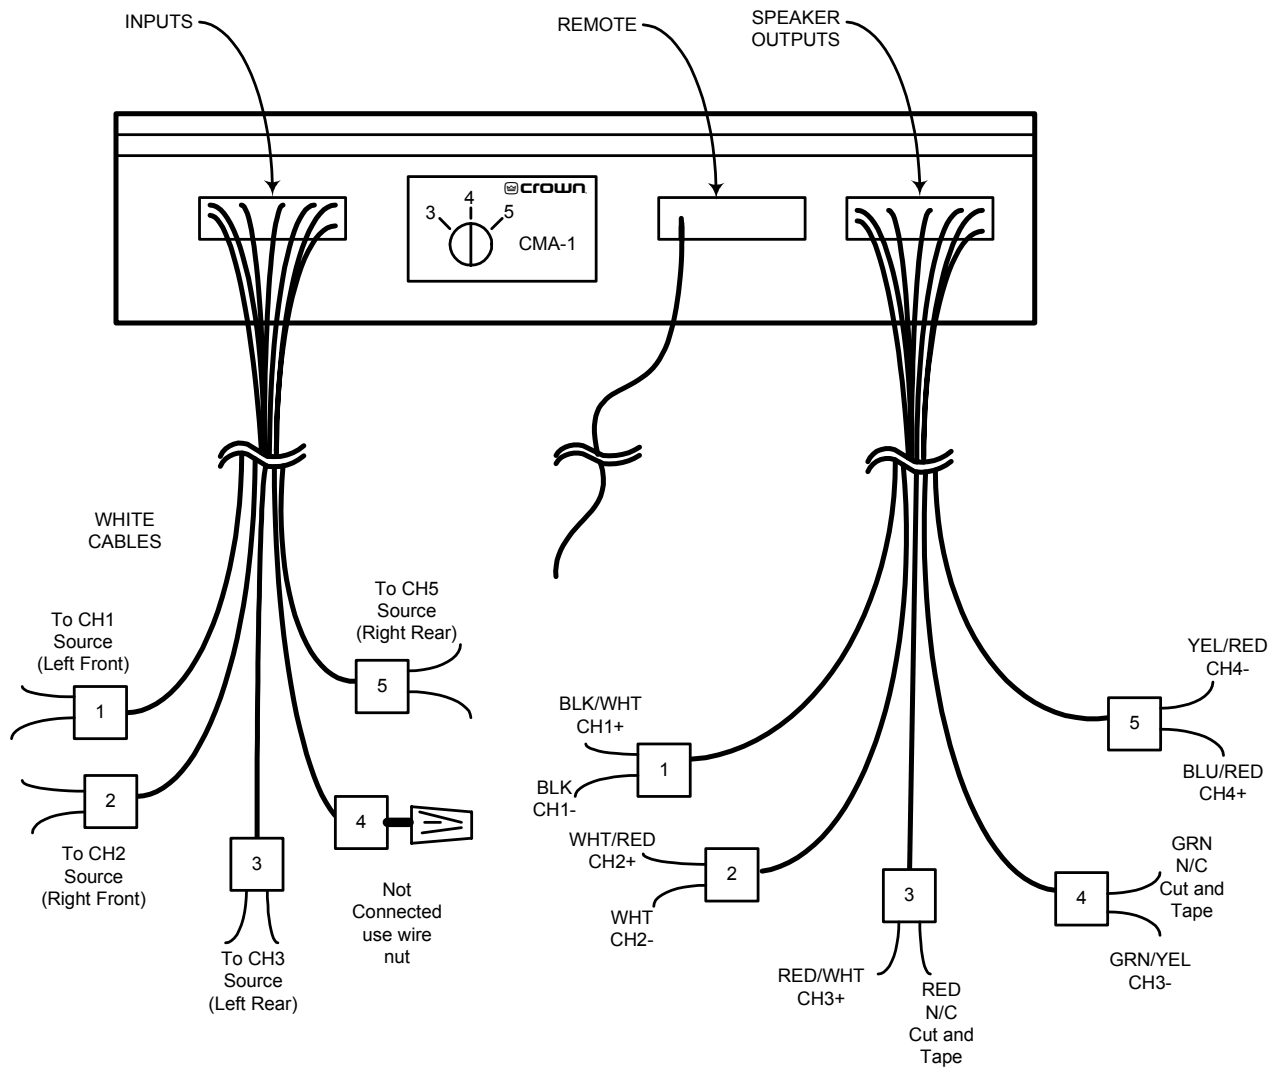

Fig. 7 4-Channel Connections
1. Refer to **Figure 7** for the following connections:
3. Refer to **Figure 7**. Connect the speakers as follows. Route the CMA-1 colored output cables separate from its white input cables to prevent oscillations. Using crimp terminals, connect the CMA-1 colored cables to the speaker terminals, taking care to observe the cables colors and polarities noted below: